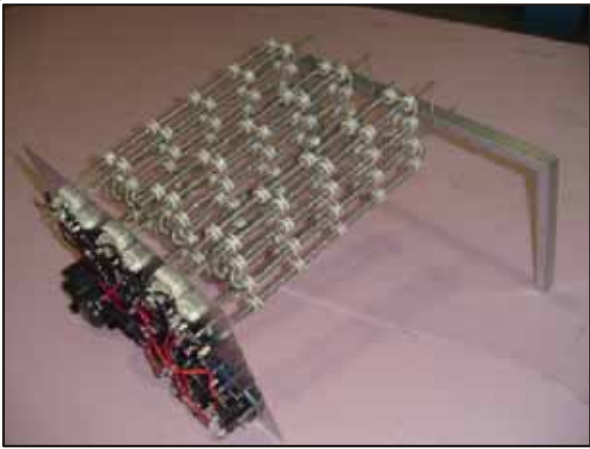

Figure 3
8. Completed heater kit assembly should resemble Figure 3.